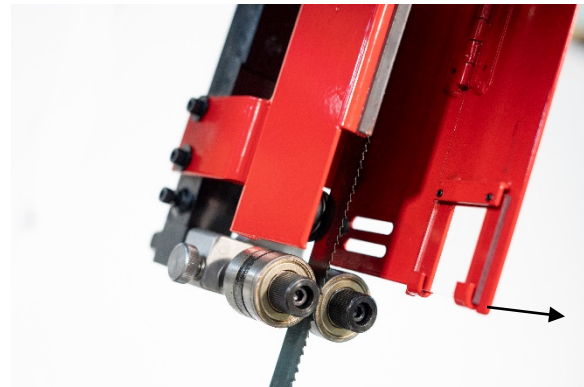

Figure 7-6
Refer to Figures 7-6, 7-7 and 7-8.
6. Pivot guidepost cover out of the way (Figure 7-6).